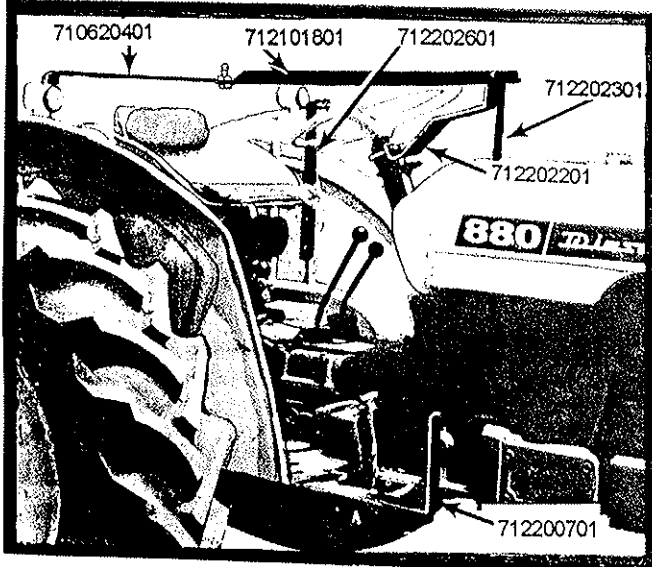

Figure 1
1. Bolt #712202201 mounting bracket to steering post with U-bolt. Bolt #712200701 pedal guard to right step using 1/2" x 1" bolt and nut. See Figure 1.
2. Place cover over tractor, insert #710620401 side arm in top hem on right side and #712101801 yoke in front wide hem. Bolt yoke and side arm together using 3/8" x 1 1/2" bolt and nut. See Figure 1.
3. Bolt yoke to #712202201 mounting bracket using 1/4" x 3/4" bolts and nuts. Bolt #710620401 side arm to fender by removing light and bolting under light. Use 1/2" x 1" bolt and nut. See Figure 1.